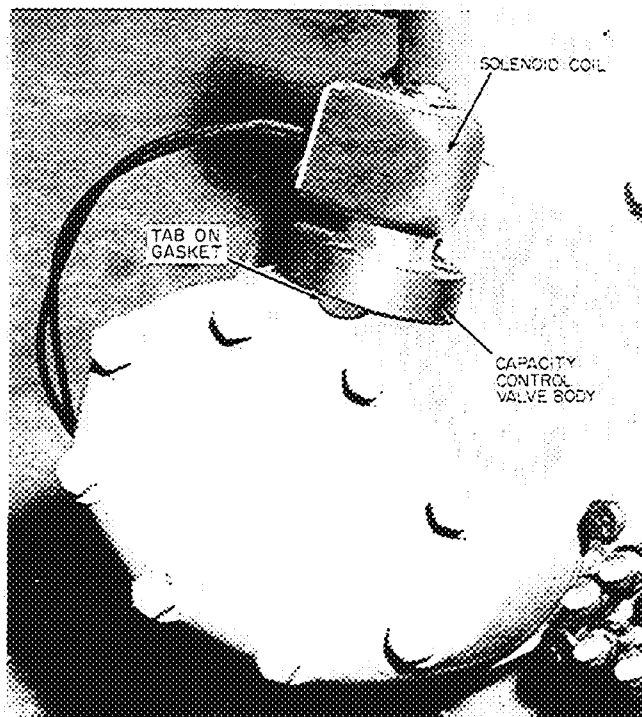

Fig. 1 — 06D Electric Capacity Control Valve
6. Wipe clean the walls of the head cavity and apply thin film of compressor oil. Carefully compress the bypass piston ring and insert the piston into the head cavity, being sure that the gasket does not shift. *The tab must be outward as shown in Fig. 1.*